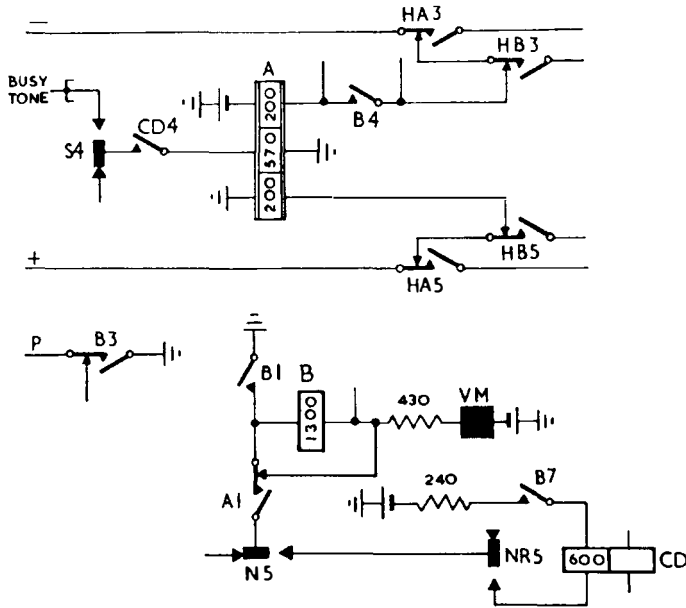

FIG. 19. CALLER RECEIVES BUSY TONE - ALL OUTLETS BUSY.
**4.11 ALL OUTLETS BUSY.** When all outlets on the dialled level are busy, the selector steps to the 11th rotary step and operates "S" springs. S1 applies an earth to the overflow meter, S2 opens the rotary magnet drive circuit, S3 opens the hold circuit via 2000 ohms for the switching relays and S4 applies busy tone to the 570 ohm winding of relay A. HB operates on its 85 ohm winding and holds on its 750 ohm winding via HB4 and CD6 to earth at CD7. HB3 and HB5 disconnect relay A, which at A1 releases relay CD after a release lag of 40-80mS. Relay HB is released by CD contacts and places relay A back across the line to re-operate to the calling loop. A1 re-operates relay CD on its 600 ohm winding. Busy tone is induced from the 570 ohm winding of relay A into the two 200 ohm windings and fed to the caller. During the time that the caller is receiving busy tone relays A, B and CD are held operated. Fig. 19 shows the conditions while the caller is receiving busy tone.